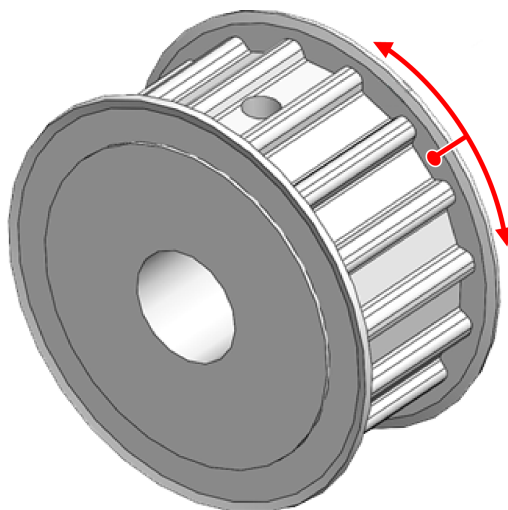

Figure 4-5: Lubricate the Pulley Flanges
11. Add small amounts of Parker Super O-Lube lubricant around the circumference of both pulley flanges (Figure 4-5).